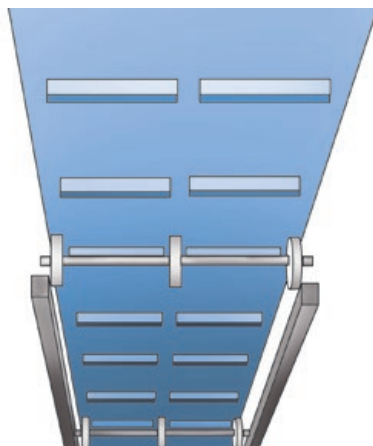

Figure 12
- Dynamic support rollers can be used if conveyor has center returnway rollers. See Figure 12